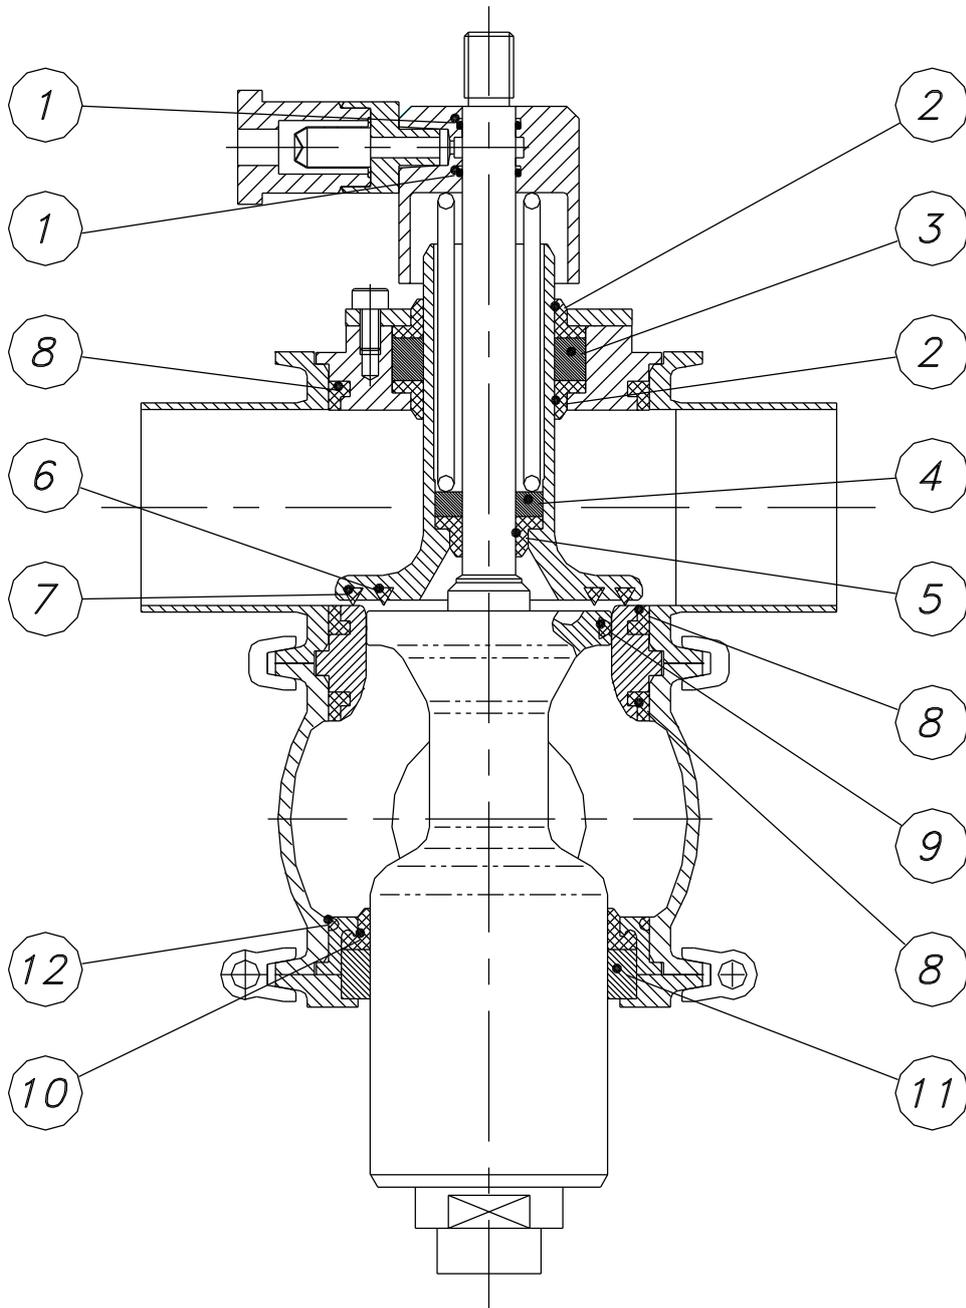

Fig. MBCSP1
6.0 PIEZAS DE REPUESTO MÓVILES: JUNTAS Y COJINETES (fig. MBCSP1)